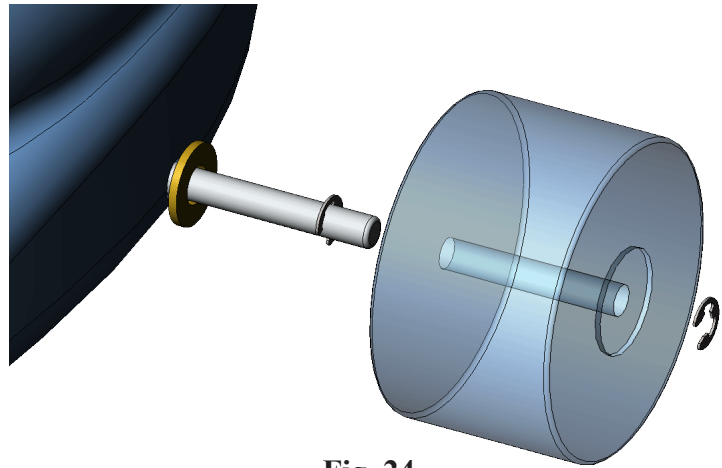

Fig. 24
Step 3. Position Wheel and E-Clips on Axle as shown in **Fig. 24**.